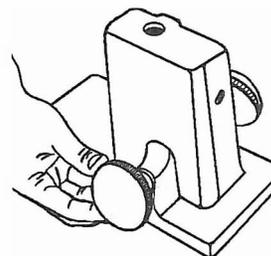

Fig. A-3
4. Attach the handles (52) to the tool rest base (37), as illustrated in Fig. A-3.